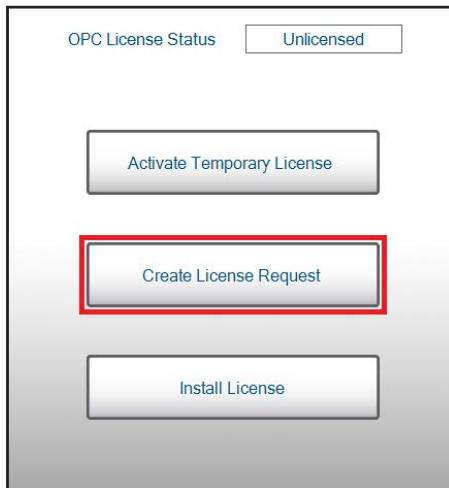

Figure 3.9 Create License Request
7. Select "Create License Request" (Figure 3.9).